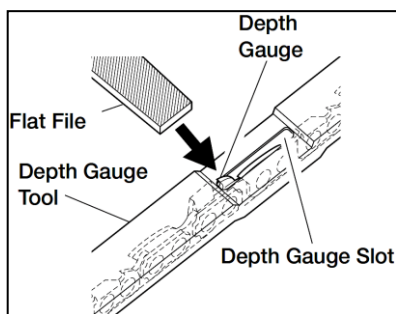

Figure 13
1. Place depth gauge tool (.025") firmly across top of two cutters. Make sure depth gauge enters slot in depth gauge tool (see **Figure 13**).